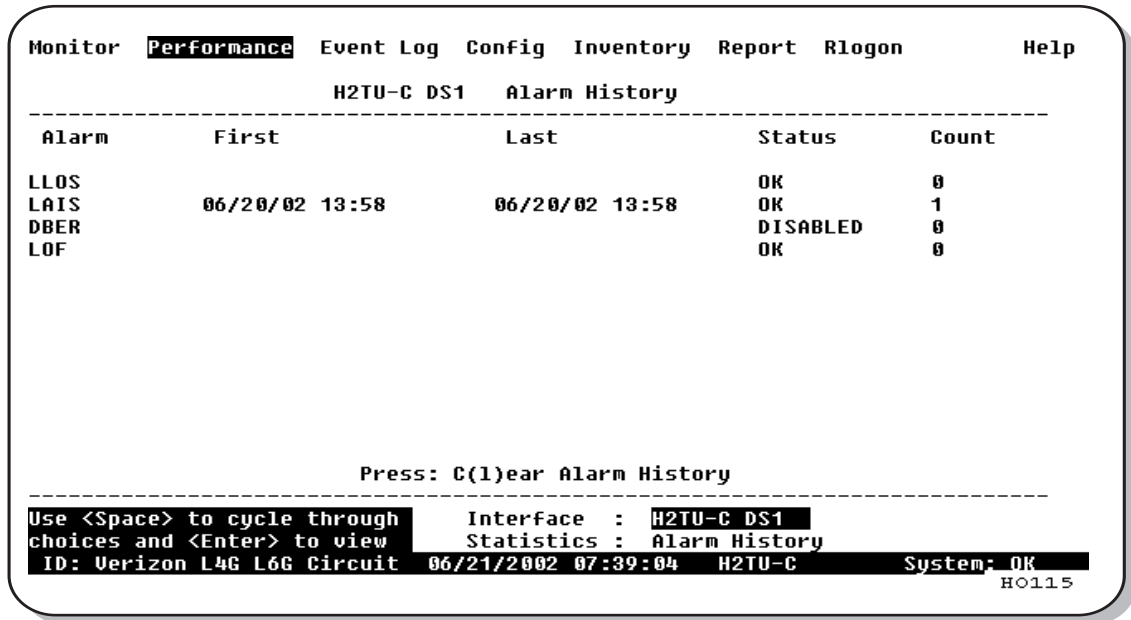
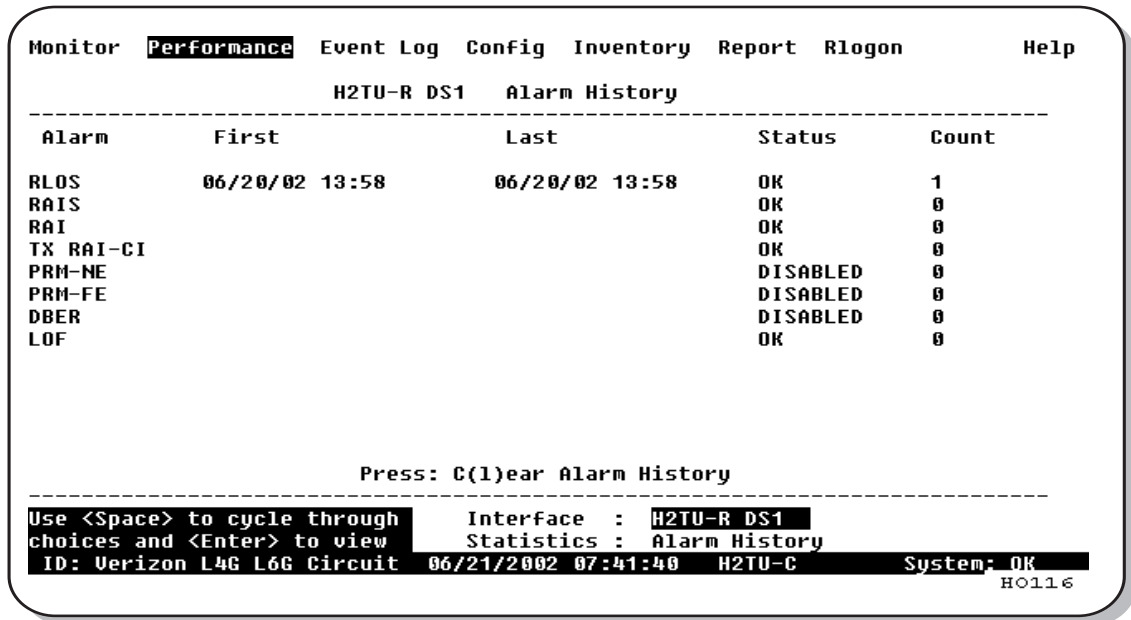

Figure 22. H2TU-C DS1 Alarm History Screen
Figure 23. H2TU-R DS1 Alarm History Screen
- Alarm statistics for the DS1 interfaces (Figure 22 on page 35 and Figure 23 on page 35) or HDSL2 interfaces (Figure 24 on page 37) on a continuous basis.
The Alarm History screen reports on a continuous basis the DS1 statistics for the H2TU-C (Figure 22 on page 35) and the H2TU-R (Figure 23 on page 35). The types of alarms reported are described in Table 17 on page 34. Current alarms are shown in reverse video.
| H2TU-C DS1 Alarms (see Figure 22 on page 35) | |
| H2TU-R DS1 Alarms (see Figure 23 on page 35) | |